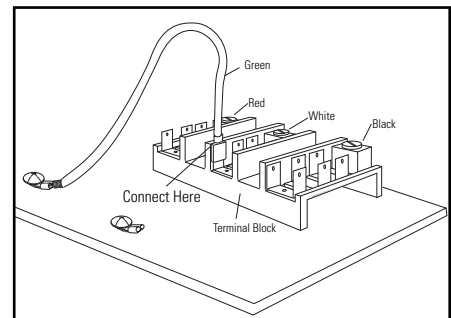

Fig. 16 RDU terminal block
- Connect green jumper to open terminal on neutral (white) portion of the terminal block (Fig. 16).